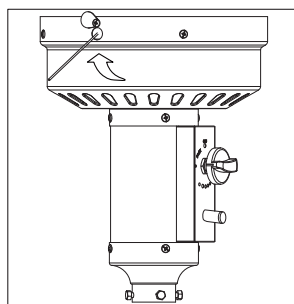

Figure 4
- As you are depressing the control knob, place long stem lighter into the ignition hole on the emitter screen to light the pilot (*Figure 4*).